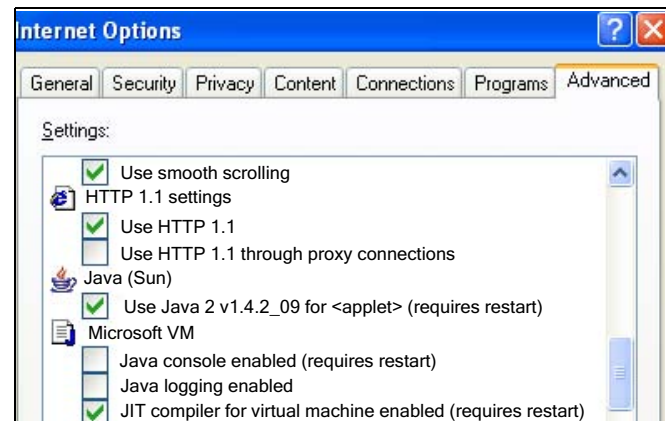

FIG. 29 Java Internet Options
2. The EasyKey software requires Sun java to operate. Open your web browser options advanced tab and select Java (Sun) and deselect the Microsoft VM selection. See FIG. 29. If the Sun Java option is not available follow the **Software Operation** procedure and load the Sun Java program when the appropriate screen and link appear.